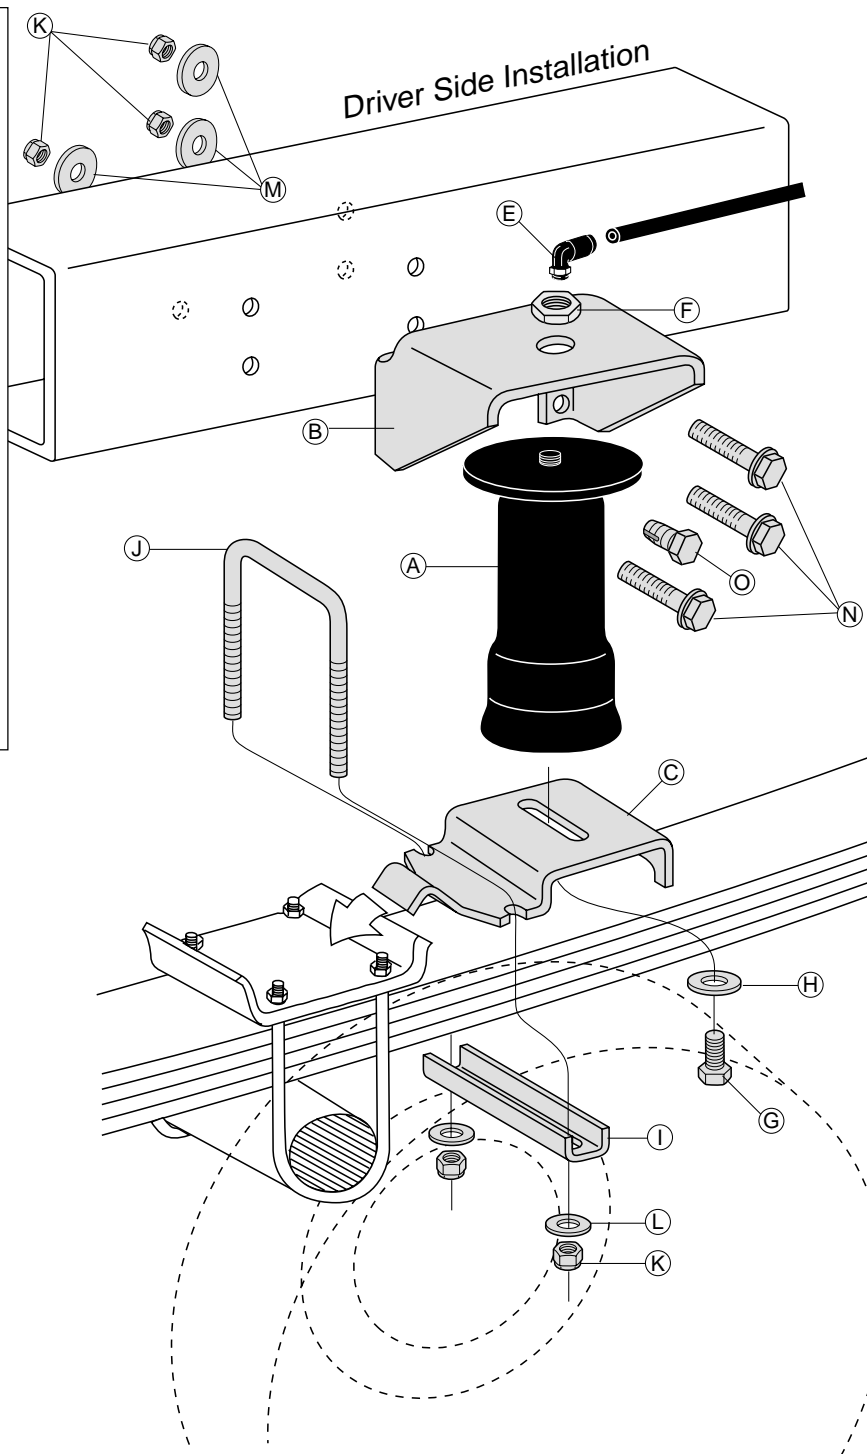
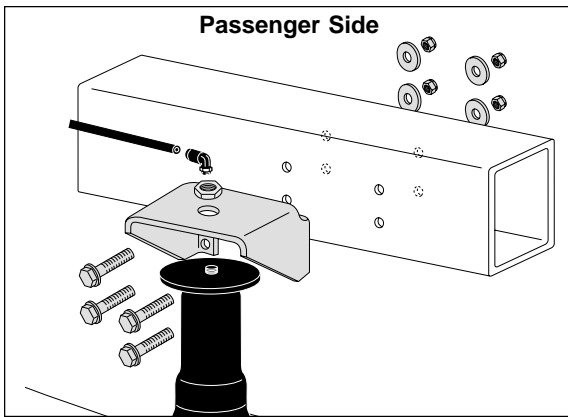

Figure 1
Figure 7
IMPORTANT: This kits mounts behind the axle. Figure 1 shows the installation for the driver side only. Refer to Figure 7 for the passenger side installation.
- b. Loosely install a $\frac{3}{8}$ " washer head bolt (N), a large flat washer (M), and nylock nut (K).
- e. Replace the upper bracket to the mounting location and secure at the forward, lower mounting hole location using $\frac{3}{8}$ " washer head bolt (N), large flat washer (M) and nylock nut (K) as shown in Figure 1.
- f. Center punch and drill a $\frac{5}{16}$ " hole for the forward upper hole and install a $\frac{3}{8}$ " self tapper (O). Tighten to 16 ft-lbs (Figure 1).
- g. Drill the remaining hole out to a $\frac{3}{8}$ " diameter and install a $\frac{3}{8}$ " washer head bolt (N), a large flat washer (M), and a nylock nut (K).
3. **PASSENGER SIDE INSTALLATION:** Install the passenger side assembly in the same manner, with the exception to the forward upper hole location. Drill this hole to a $\frac{3}{8}$ " diameter and install a $\frac{3}{8}$ " washer head bolt (N), a large flat washer (M), and a nylock nut (K). No self tapper is used on the passenger side. Refer to Figure 7.
1. Install 90 degree air swivel fitting (E) to the top of the air spring (A) (Figure 1). Use a $\frac{7}{16}$ " open end wrench being careful to tighten on the metal hex nut only. Tighten 1 $\frac{1}{2}$ turns. Do not over tighten. *NOTE: This fitting is precoated with sealant.*
2. Guide the fitting through the center mounting hole in the upper bracket (Figure 1).
3. Attach the air spring to the lower bracket using flat washer (H) and bolt (G). Carefully hand turn the air spring onto the lower mounting bolt. Leave loose for later adjustment.
4. Loosely, install nylon nut (F) over the air fitting and onto the upper threadpost of the air spring (Figure 1).